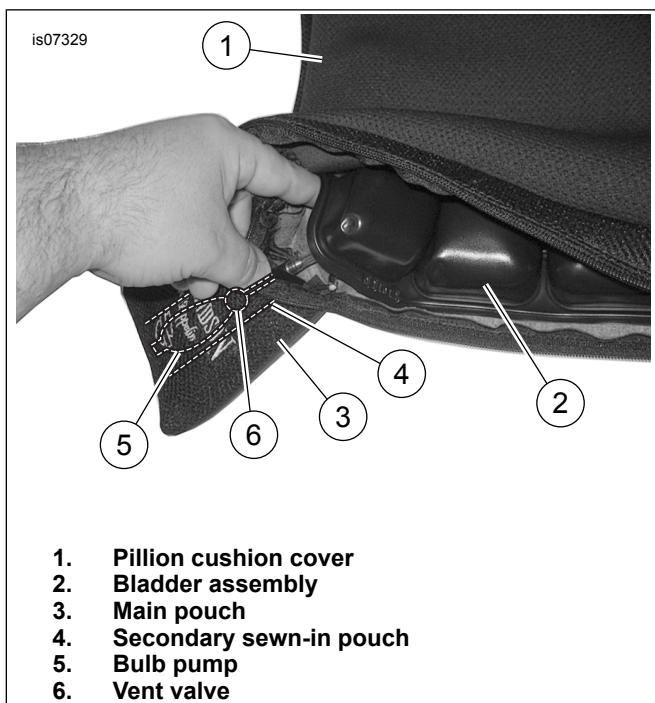

Figure 8. Bladder and Cover Assembly, Pillion Cushion
3. Inside the main pouch (3) is a secondary sewn-in pouch (4) that will secure the bulb pump (part of the bladder assembly). Become familiar with the shape and location of the inner pouch. The stitching on the back side of the main pouch indicates the size and position of the inner pouch.
4. See Figure 8. Insert the bladder assembly (2) into the pillion cushion cover (1) with the bladder cells facing upward. Begin feeding the bulb pump and vent valve assembly into the main pouch (3) from the inside.
- a. Insert the bulb pump/vent valve assembly straight into the secondary pouch (4) until the pump is in position (5).
- b. Position the vent valve (6) inside the secondary pouch with the relief button facing the embroidery of the pouch.